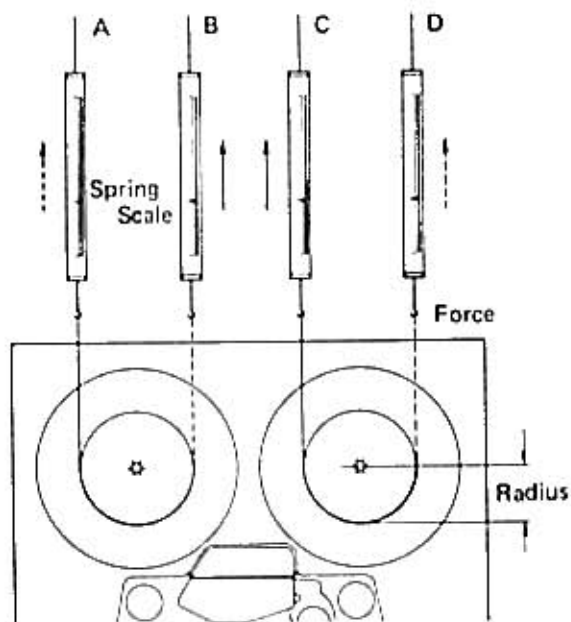

Fig. 1-3-3
1. Mount an empty 7" reel onto either reel table and attach a spring scale to the reel with a string. See Fig. 1-3-3.
3. Follow steps 1 and 2 for each measuring condition; i.e., (A) through (D) in Fig. 1-3-3.